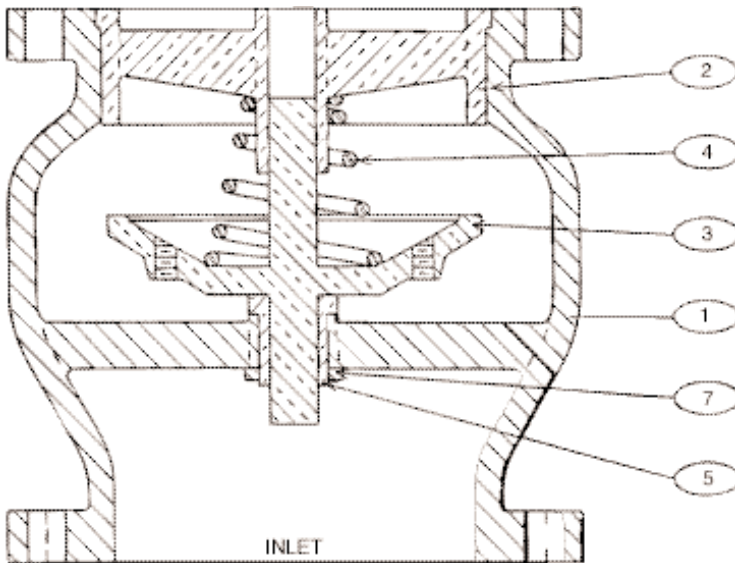

FIGURE 5. ARRESTOR CHECK
The standard valve body material is cast iron with bronze disc. General details of construction are illustrated in figure 5. The body (1) is flanged for connection to the pipeline. See page 2 for installation to the pipeline.